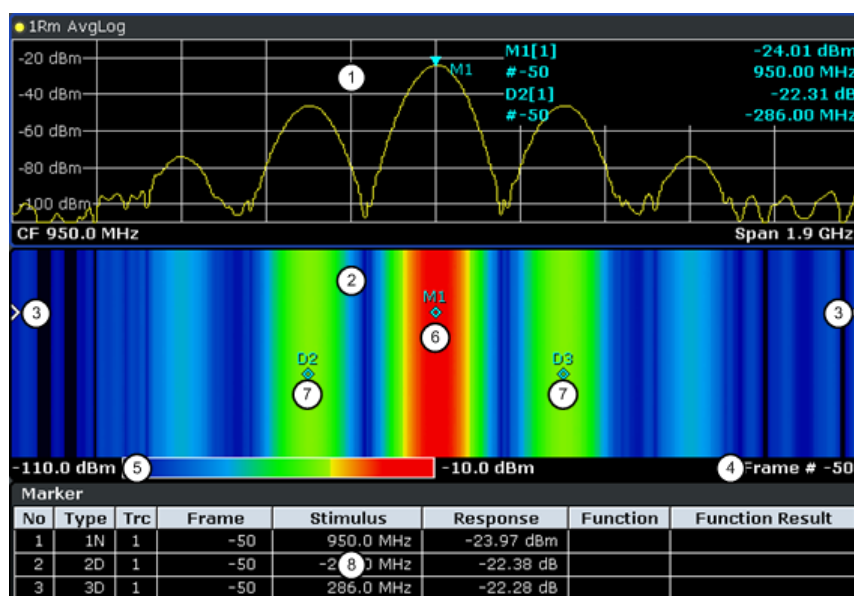

**Fig. 3-47: Screen layout of the spectrogram result display**
- **Spectrum Analyzer result display (1 in figure 3-47)**